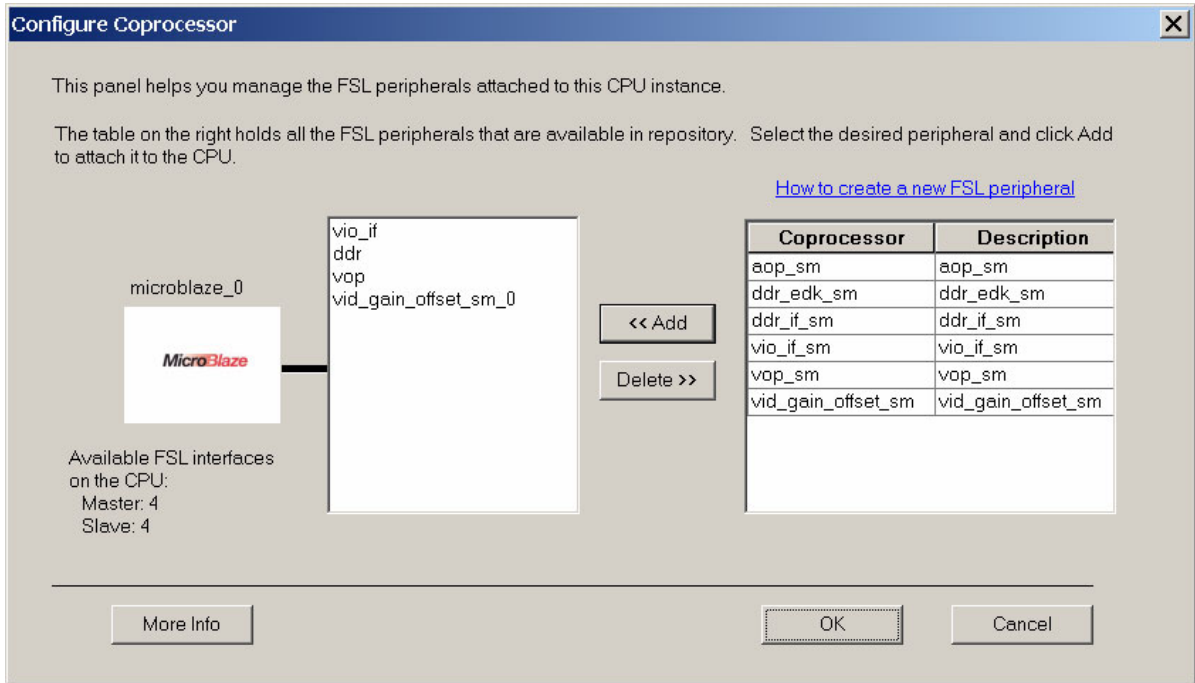

Figure 6-9: Configure Coprocessor Panel
- Select vid\_gain\_offset\_sm and add the pcore to the project as shown in Figure 6-9.